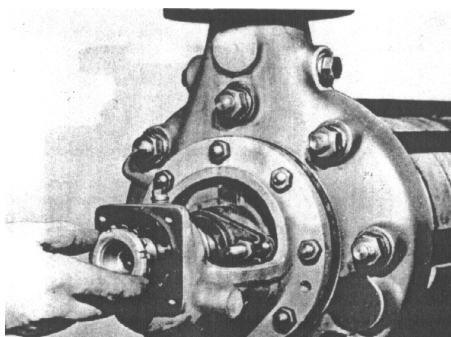

Fig. 13
- Mount the Taper Sleeve Lock, the Bearing's Fixing Nut, the Locking Plate and the Bearing's Inner Ring on the shaft. (See fig. 13)